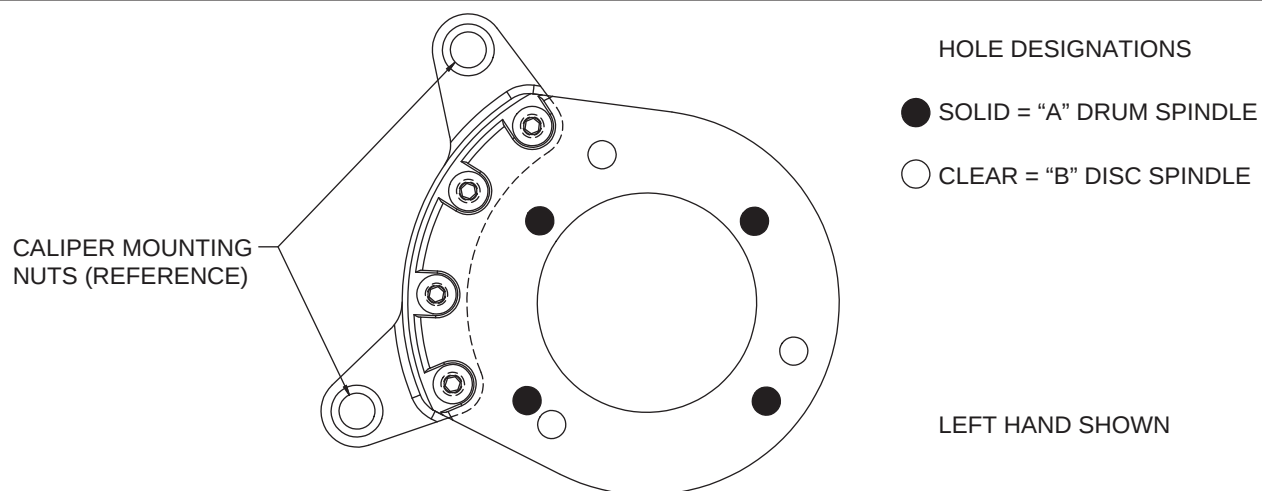
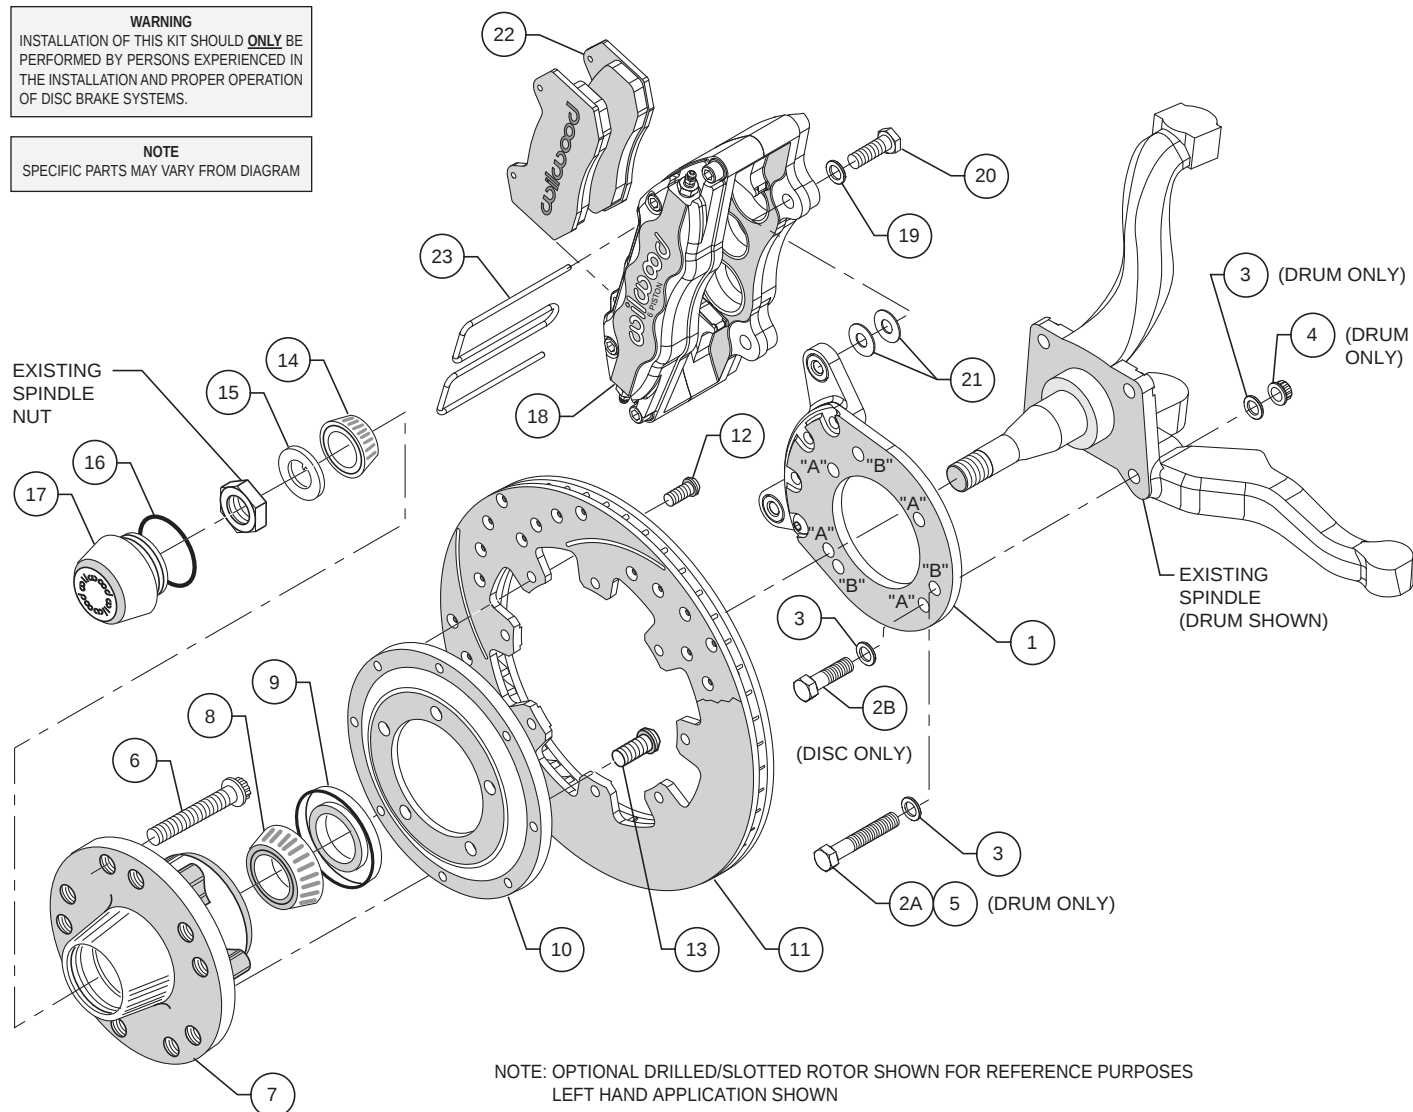
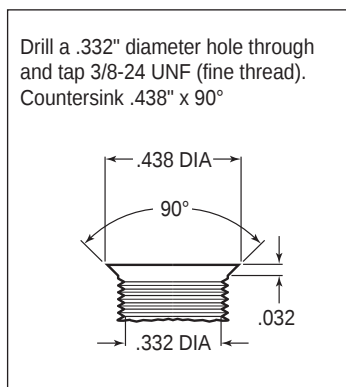
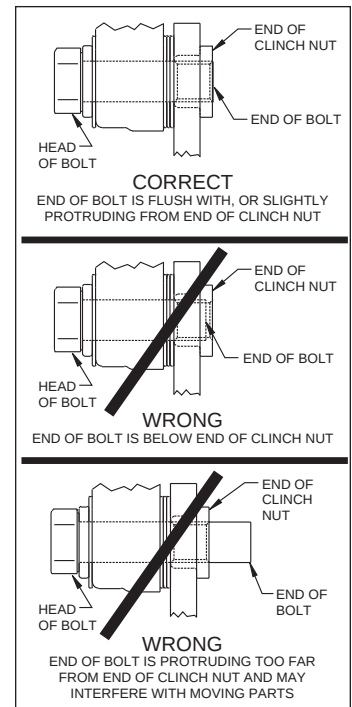

Figure 1. Wilwood Caliper Mounting Bracket
Figure 2. Typical Installation Configuration
Figure 3. Drill and Tap Detail
Figure 5. Clinch Nut Engagement Diagram
This kit has been designed for use with both the disc brake or the drum brake configuration of vehicle. The only difference is in how the Wilwood caliper mounting bracket is installed. The same bracket is used for both configurations; the disc brake version utilizes three mounting holes while the drum brake application uses four mounting holes (see Figure 1). For your convenience we have supplied bolt kits for both applications (see parts list and Figure 2 as necessary). Use the bolt kit that is applicable to your vehicle and disregard the other one.
NOTE: This modification should be performed by a qualified machinist and completed before assembly of the Wilwood disc brake kit begins. Using the caliper mounting bracket as a template (refer to Figure 1 as necessary), locate and verify the three original holes on the spindle that need to be modified. Drill a .332" diameter hole through all three holes, then tap 3/8-24 UNF (fine thread). Countersink the holes to .438" diameter x 90°, as shown in Figure 3.
Assembly Instructions (numbers in parenthesis refer to the parts list, and Figure 2 on the preceding pages): **CAUTION:** All mounting bolts must fully engage clinch nuts. Be sure to check that all bolts are either flush or protruding through flanged side of clinch nut after shimming, Figure 5.
•**NOTE:** This kit uses the same mounting bracket (1) for both the drum and disc brake spindles. The drum version, Photo 1, uses four mounting bolts (designated "A"), while the disc version, Photo 2, uses three (designated "B"). Refer to Figures 1 and 2 for the basic installation position of the bracket and the "A" and "B" reference designations (not physically marked on the brackets).
For Drum Spindle: Align bracket, using the four "A" holes, to the face of the spindle and attach using bolts (2A and 5), washers (3), and lock nuts (4), as shown in Figure 2. Ensure that the flanged heads of the clinch nuts in the bracket are facing outboard, Photo 1. Torque nuts to 30 ft-lb.
For Disc Spindle: Align bracket, using the three "B" holes, to the face of the spindle and attach using bolts (2B) and washers (3), as shown in Figure 2. Finger tighten. Ensure that the flanged heads of the clinch nuts in the bracket are facing outboard, photo 2. Remove bolts one at a time, apply red *Loctite*® 271 to threads, and torque to 40 ft-lb.
•Install wheel studs (6) into the hub (7), Photo 3. Torque to 77 ft-lb. **NOTE:** There are two five lug patterns in the hub (5 x 4.50 and 5 x 4.75). Ensure the correct hub stud pattern is being used to fit the wheel application.
•Pack the large inner bearing cone (8) with high temperature disc brake bearing grease (available from your local auto parts store) and install into the backside of the hub (7), Photo 4.
•Install the grease seal (9) by pressing into the backside of the hub (7), flush with the end of the hub, Photo 4.
•Orient the rotor (11) and the rotor adapter (10) as shown in Figure 2 and Photo 5. Attach the rotor to the adapter using bolts (12). Using an alternating sequence, apply red *Loctite*® 271 to the threads, and torque to 25 ft-lb.
•Mount the adapter/rotor assembly (10/11) to the hub (7) using bolts (13), as shown in Figure 2 and Photo 6. Using an alternating sequence, apply red *Loctite*® 271 to the threads, and torque to 55 ft-lb.
•Pack the small outer bearing cone (14) with high temperature disc brake bearing grease and install into hub (7). Slide the hub/rotor assembly onto the spindle. Secure using spindle washer (15) and OEM spindle nut, Photo 7. Adjust bearings per OEM specifications. Install saved OEM nut lock (if any) and a new cotter pin (not included).
•Screw dust cap (17) into hub (7), Photo 8. Friction created by the o-ring (16) on the dust cap keeps it from unscrewing. **NOTE:** The O.D. of the existing OEM spindle washer may be larger than the I.D. of the dust cap not allowing it to seat against the hub face. Therefore, use the spindle washer (15) supplied with the kit instead of the OEM washer.
•**NOTE:** Please reference the caution statement at the beginning of the assembly instructions. This kit contains distinct right and left hand calipers that must be mounted in a specific direction, as described below. Mount the caliper (18) onto the caliper mounting bracket (1) using bolts (20) and washers (19), as shown in Figure 2. Initially place two .035" thick shims (21) on each bolt between the caliper and the bracket, Photo 9. Ensure that the caliper is mounted so the largest pistons are at the rotor exit end of the caliper, in relation to the direction of rotor rotation. Temporarily tighten the mounting bolts and view the rotor (11) through the top opening of the caliper. The rotor should be centered in the caliper, Photo 10. If not, adjust by adding or subtracting shims between the bracket and the caliper. Always use the same amount of shims on each of the two mounting bolts. **NOTE:** The end of each bolt must be flush with or slightly protruding from the head of the clinch nut, as shown in Figure 5. If necessary place spare shims between washer (19) and caliper mounting ear to achieve the proper clinch nut engagement. Once the caliper alignment and clinch nut engagement are correct, remove the bolts one at a time, apply red *Loctite*® 271 to bolt threads, and torque to 40 ft-lb.